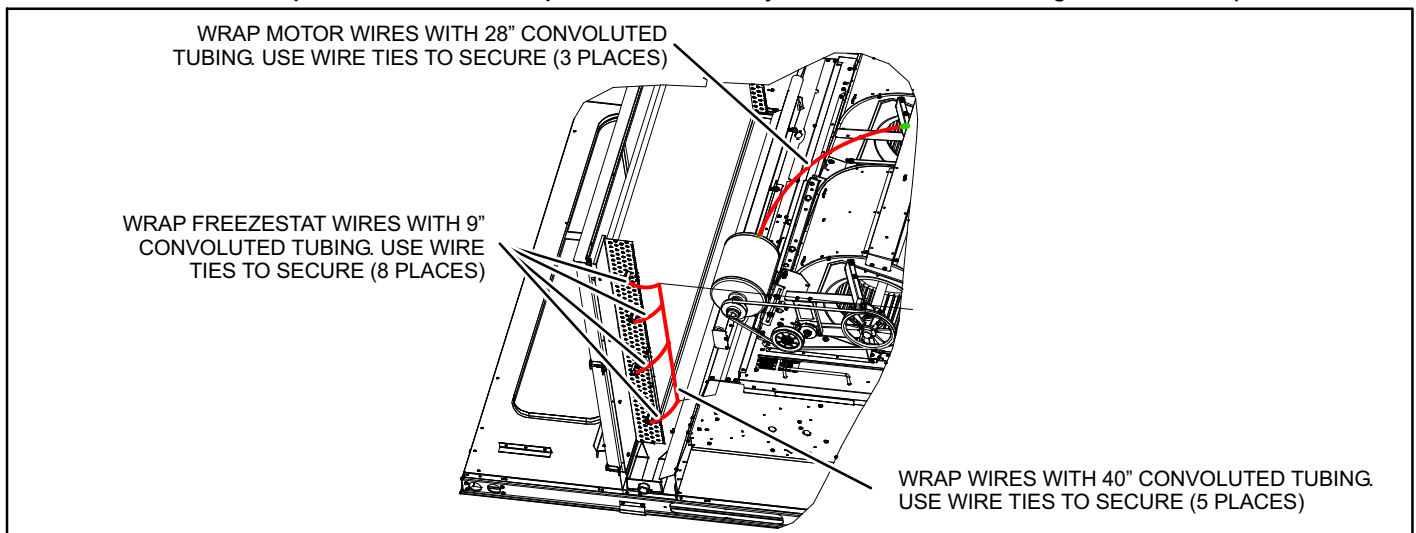

Figure 8. Installing Convuluted Tubing
1. Install up to (4) 9" long, 1" diameter convuluted tubing (included in the kit) to shield freezestat wiring (if applicable) (see figure 8). Black wire ties are provided to tie the tubing in place.
2. Install (1) 28" long, 1" diameter convuluted tubing (included in the kit) to shield electrical wiring for the motor (see figure 8) and tie using black wire ties.
3. Install (1) 40" long, 1" diameter convuluted tubing (included in the kit) to shield electrical wiring harness running vertically from the blower deck to the top of roof-top unit (see figure 8) and tie using black wire ties.